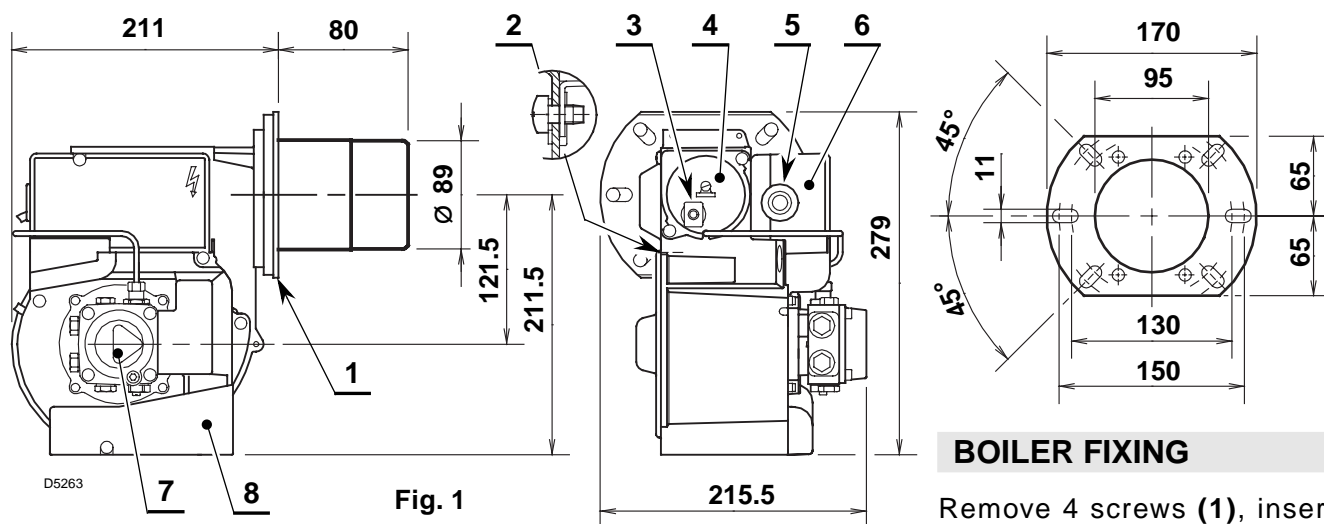
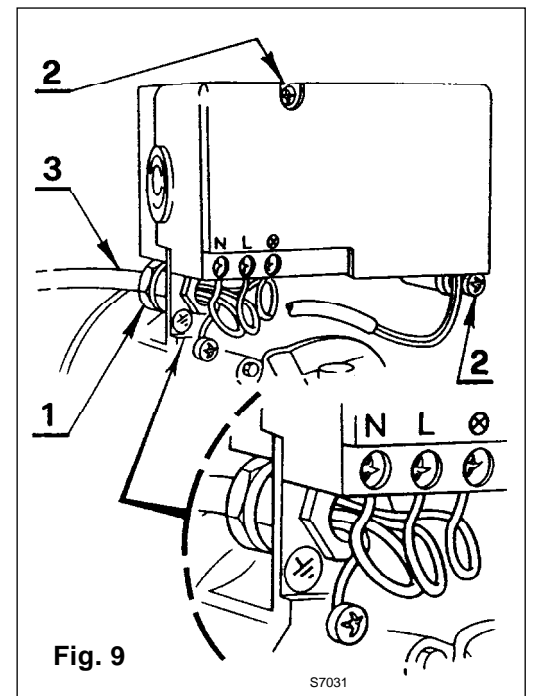

Fig. 1
Fig. 9
- Remove the protection crankcase (8, fig. 1, page 1) after removing the 3 retainer screws. Widen the upper slit and remove the protection crankcase, inserting the oil pipe and the flexible oil lines.
- Insert PG 13.5 cable-gland (1) into the wire access hole and tighten it with the nut.
- Insert the electrical cable into the connector and make electrical connections as shown in fig. 9.
- Remove the protection crankcase (8, fig. 1, page 1), as above mentioned.
- Disconnect the main voltage cable (3, fig. 9).
- Remove screws (2, fig. 9) and disconnect wires of motors, photoresistance and coil.